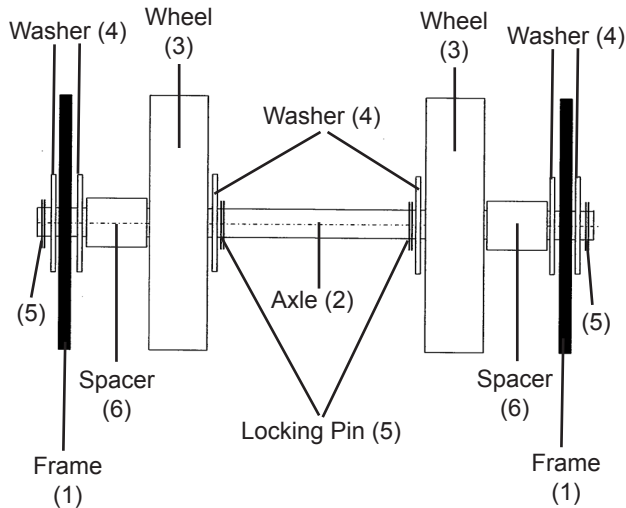

Figure 1
- For assembly, slide the Axle (2) through the top hole in the left hand side of the lower Frame (1), Washer (4), Spacer (6), Wheel (3), and Washers (4). Continue the assembly, running the axle through Washer (4), Wheel (3), Spacer (6), Washer (4), and out through the upper hole of the Frame on the right hand side of the truck. Attach one washer at each outer end of the axle and insert a Locking Pin (5) through the Axle and spread the Pins' ends to lock. See Figure 1, below.